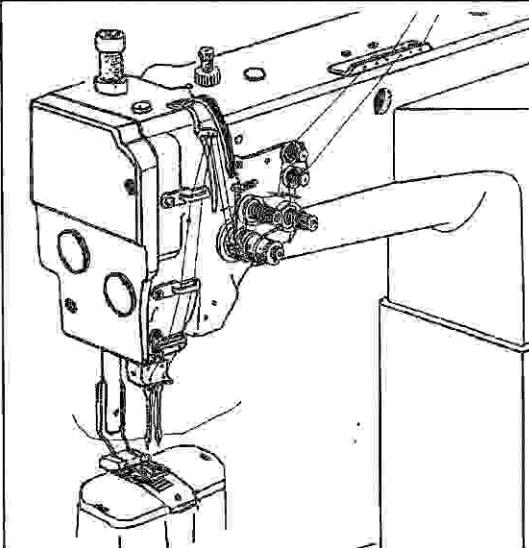

Fig.3
4.Lead the Upper Thread (Fig.3) :
Raise the thread take-up lever to its highest position and lead the upper thread as shown in fig.3.